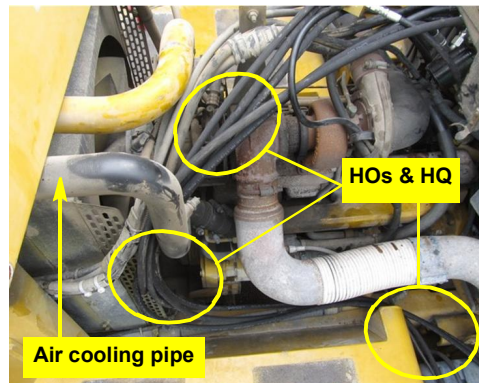

Figure 7c: Hoses routed to steering block (not visible)
- c. Route all the hoses forward over the engine, down in front of the air cooling pipe and back to the hydraulic steering block (Figure 7c).